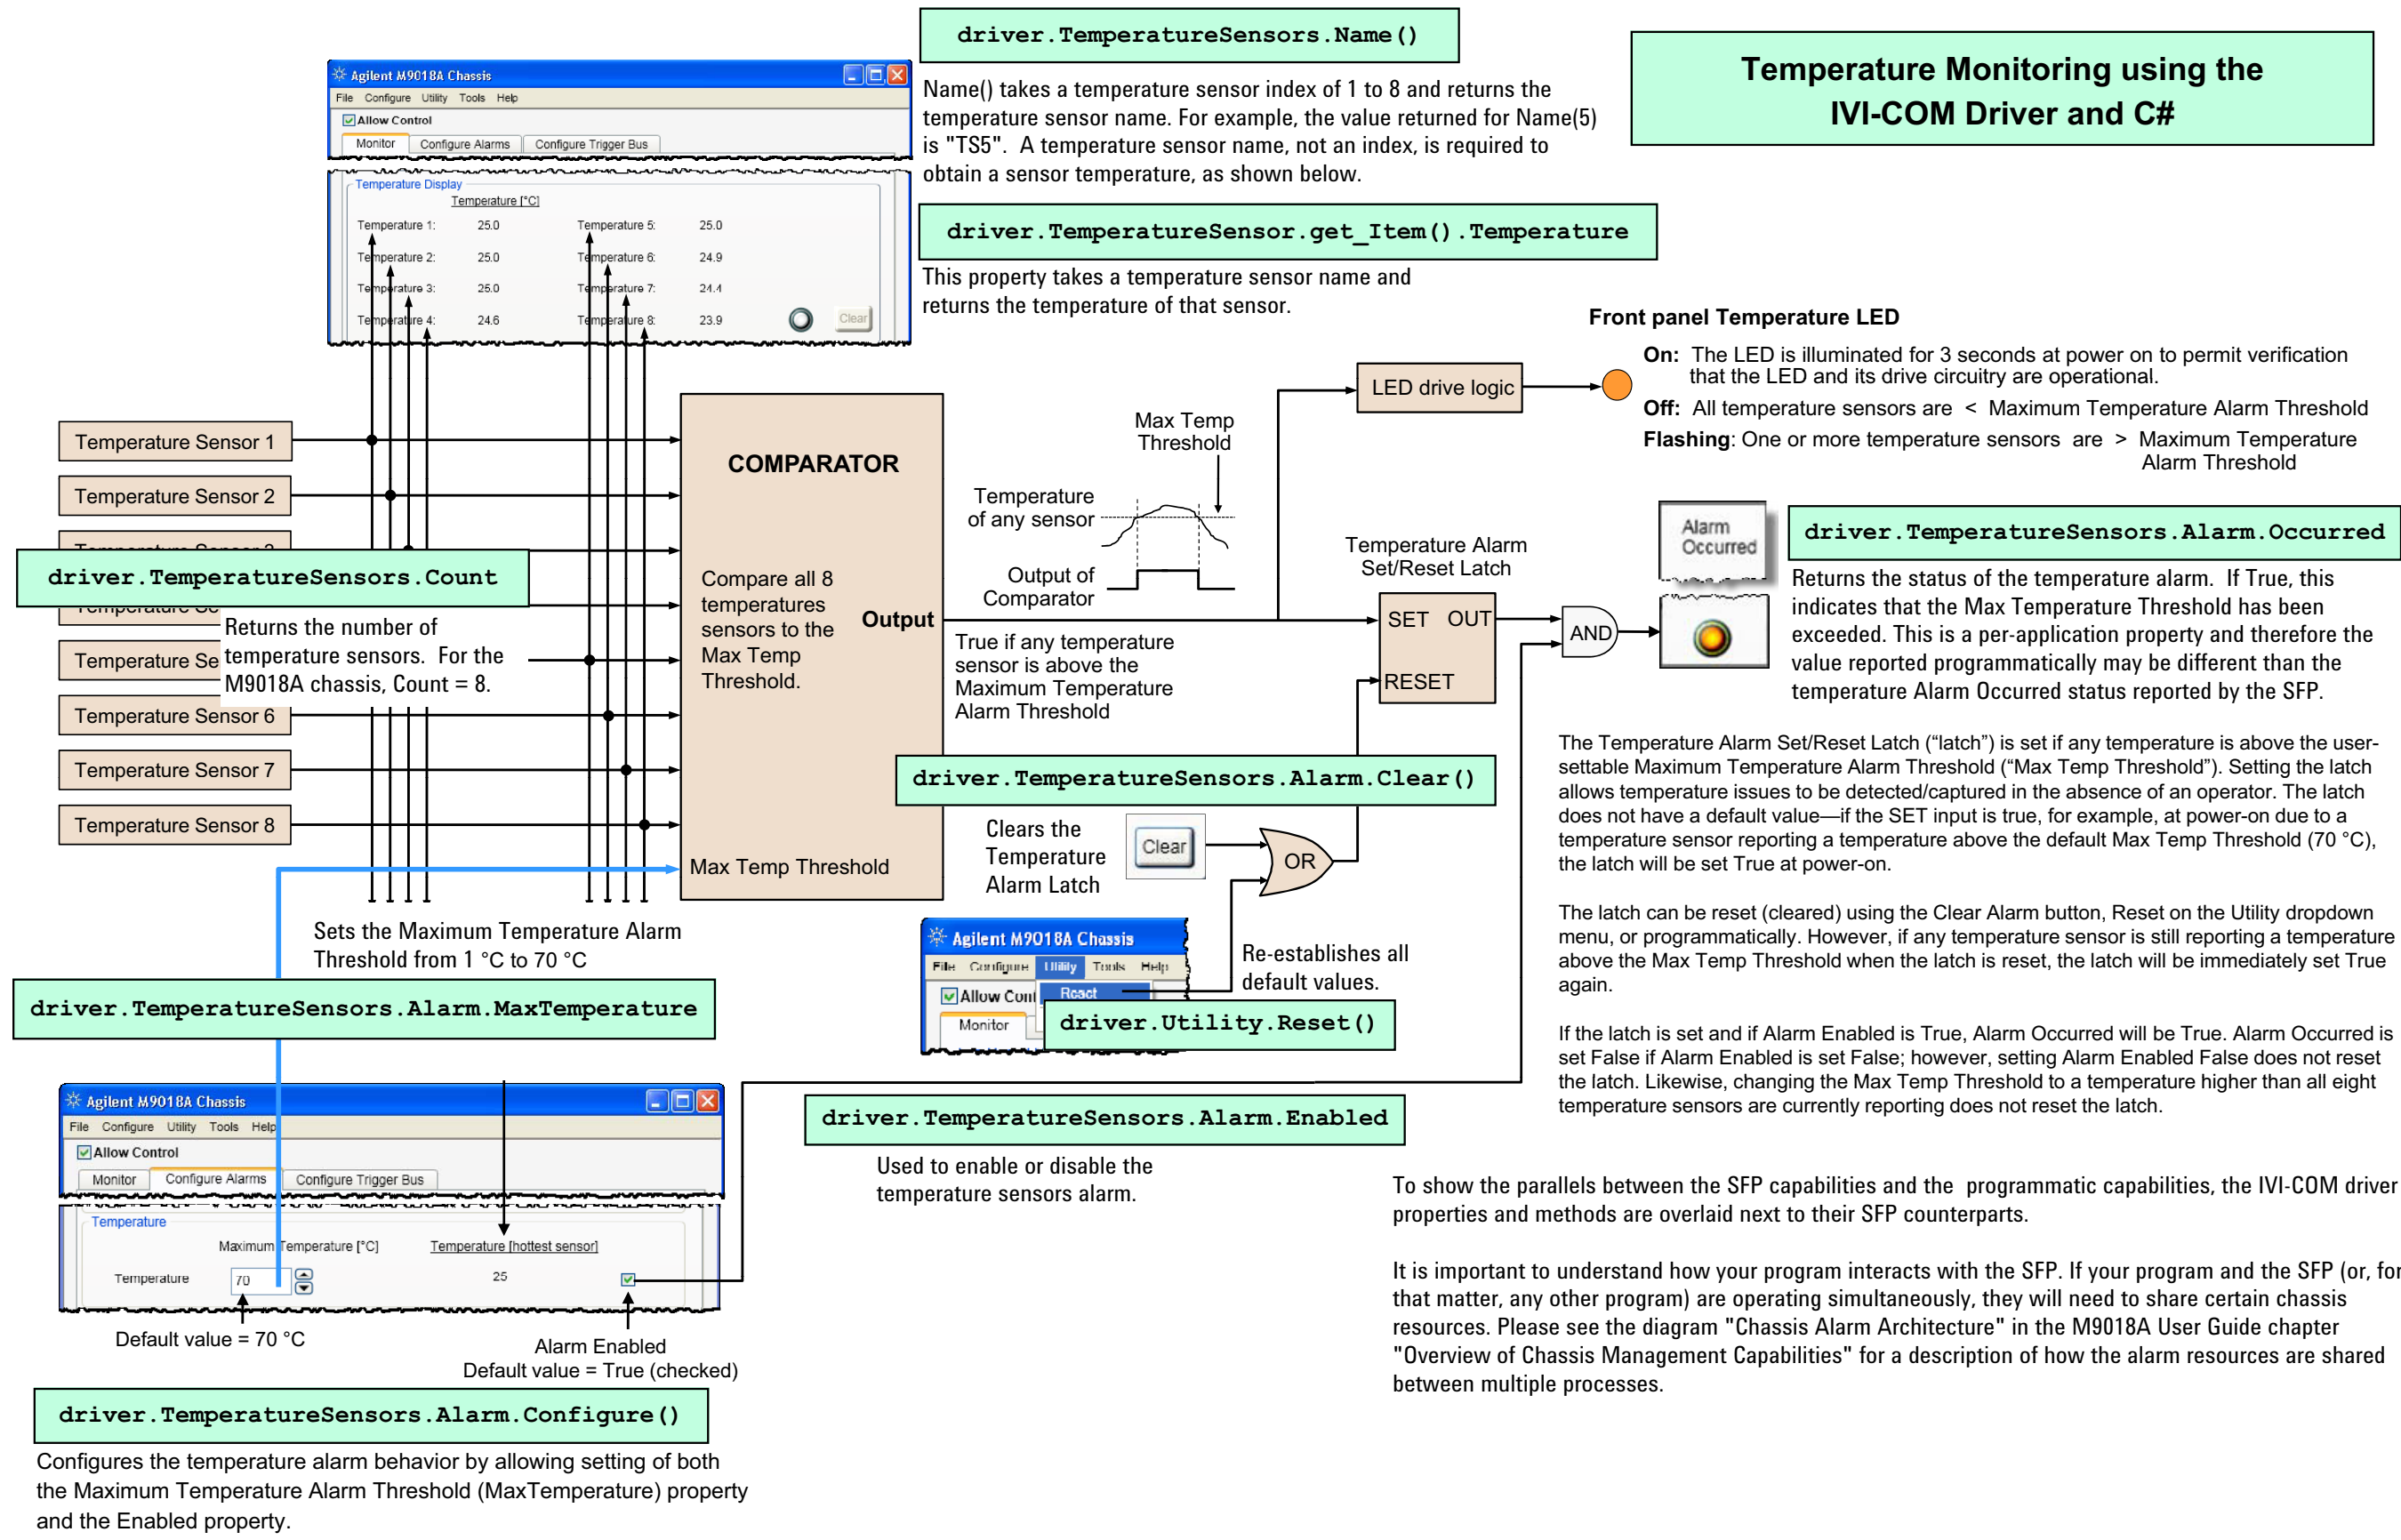

Figure 22
- IVI-COM driver and C# – Figure 22 on page 46